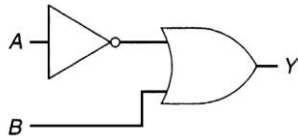

Figure 4-15 Logic circuit for question 24.
24. The correct Boolean expression for the logic circuit of Figure 4-15 is _____. 24._____